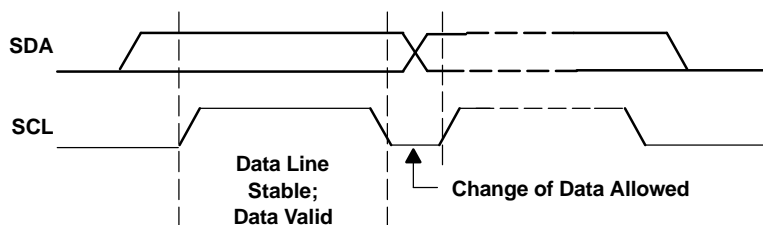
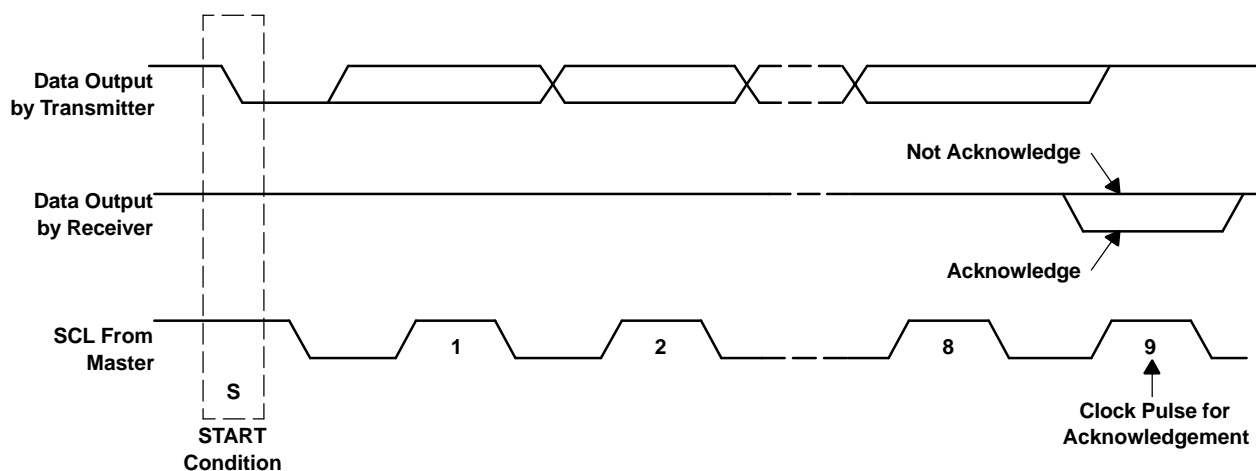

Figure 30. Bit Transfer on the I2C Bus
Figure 31. Acknowledge on the I2C Bus
- The master then generates the SCL pulses, and transmits the 7-bit address and the *read/write direction bit*  $R/\overline{W}$  on the SDA line. During all transmissions, the master ensures that data is *valid*. A *valid data condition* requires the SDA line to be stable during the entire high period of the clock pulse (see Figure 30). All devices recognize the address sent by the master and compare it to their internal fixed addresses. Only the slave device with a matching address generates an *acknowledge* (see Figure 31) by pulling the SDA line low during the entire high period of the 9th SCL cycle. Upon detecting this acknowledge, the master knows that communication link with a slave has been established.